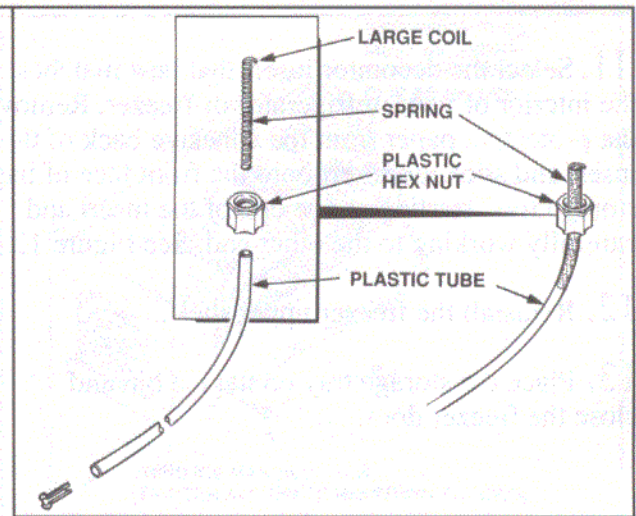

Figure 15
16. Select the end of the plastic tube without the steel insert and slip the plastic hex nut over the tube. See Figure 15. Make a mark 5/8" to 3/4" from the top of the end of the tube with the steel insert.
17. Insert the spring into the opposite end of the tube, with the end of the spring containing the large coil facing out. See Figure 15. The large coil prevents the spring from being forced into the tube. The spring allows the tube to be bent without kinking and is necessary for proper installation.